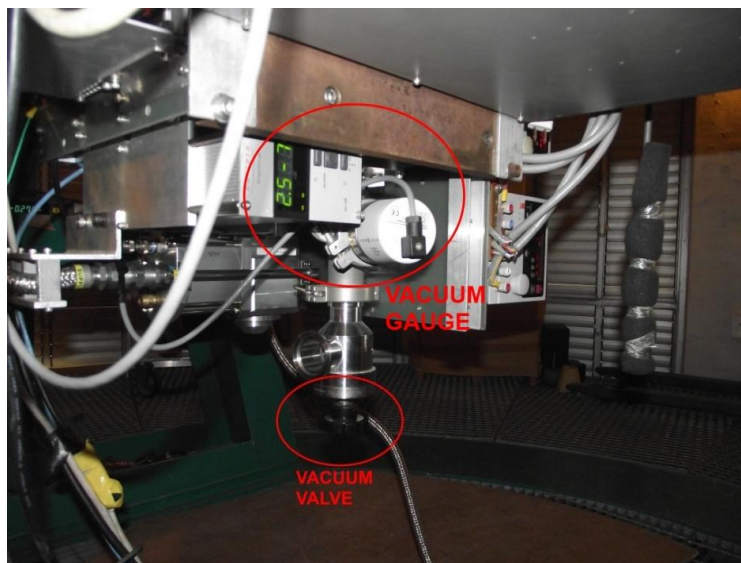

Figure 3: Instrument Vacuum Valve and Vacuum gauge
5. Wait until the **vacuum level in the hose reaches a similar or lower pressure than in the instrument**. See figure 3 for the location of the on-instrument vacuum gauge.
6. Open the valve on the instrument (See figure 3)
1. Close the valve on the instrument (Figure 3)